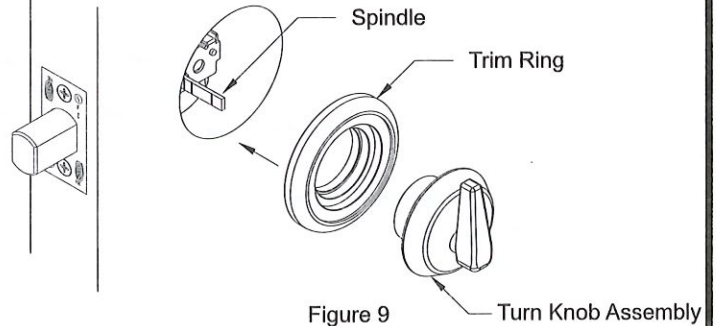

Figure 9
- With the spindle in the vertical position, slide the turn knob assembly and trim ring over the spindle as shown in Figure 9.